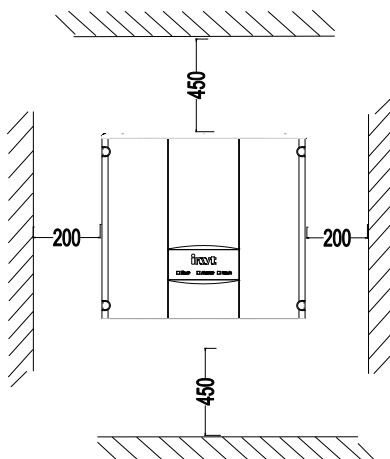
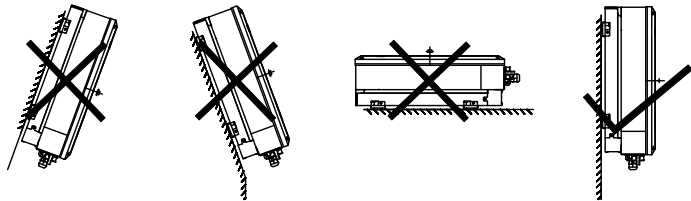

Figure 3.2 Installation space
Figure 3.3 Installation position
- (1) Height from ground level should be enough to ensure that display and status LEDs are easy to read.
- (2) Select a well ventilated place sheltered from direct sun radiation and rain.
- (3) Allow sufficient space around the inverter to enable easy installation and removal from the mounting surface. Refer to Figure 3.2.
- (4) The environment temperature is between -25°C ~ 60°C .
- (5) The installation position keeps away from the interface of other electrical devise.
- (6) The inverter needs to be installed on a firm and sturdy surface, such as wall and metal bracket and so on.
- (7) The installation surface should be perpendicular to the horizontal line. Refer to Figure 3.3.
The inverter should be mounted in a vertical position of 90°to the horizontal line as shown in figure 3.3.